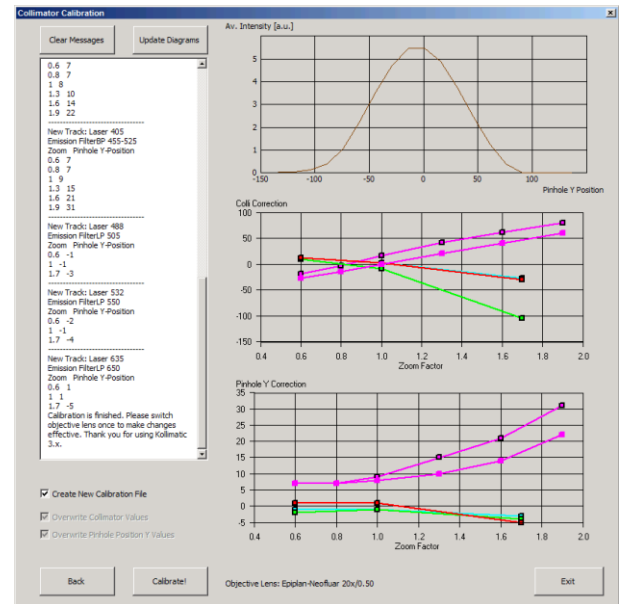

Fig. 16 Collimator Calibration window after calibration
- In order to follow the calibration process, just simply click into the Message Window and; a scroll bar will appear (Fig. 16).